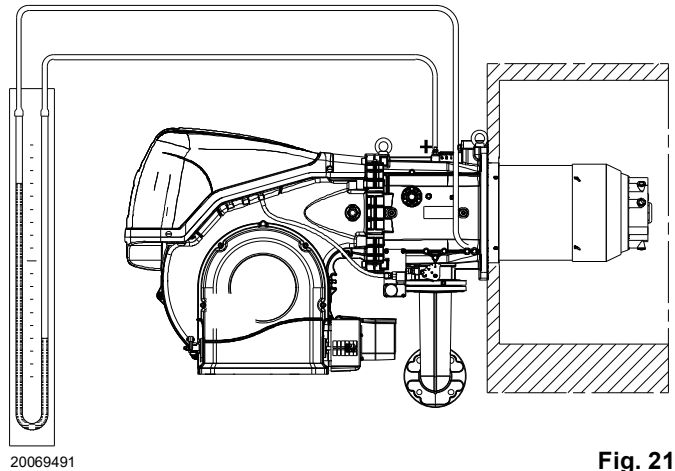

Fig. 21
- Fit a U-type pressure gauge or a differential pressure gauge (Fig. 21), with socket (+) on the gas pressure of the pipe coupling and (-) in the combustion chamber. The manometer readings are used to calculate MAX burner output using the Tab. L.
The arrival of gas at the pipe coupling is indicated by the U-type pressure gauge (Fig. 21).